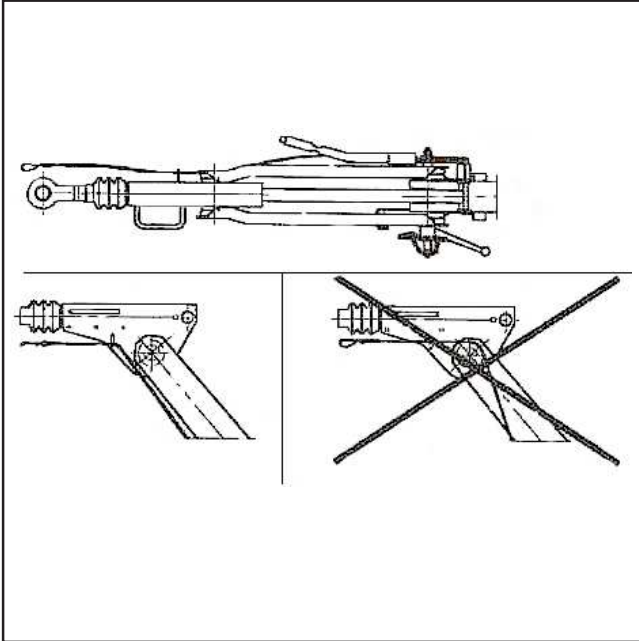
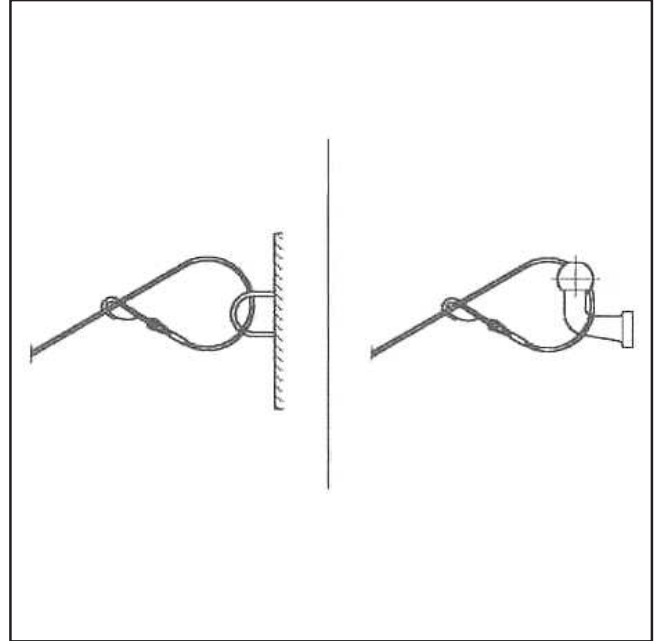

FIG.08
FIG.09
- Insert the snap cable through the eyelet welded on the side (guide cable grommet) (FIG. 08-REF. 1) and fasten the snap hook to the hole (FIG. 09).